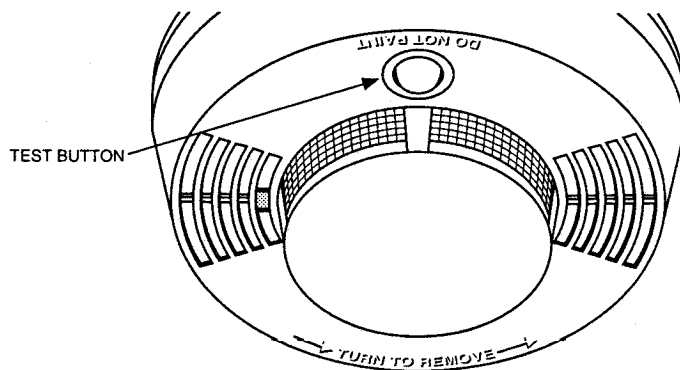

Figure B.4. Test Button Location
3. Trip the alarm by pressing and holding the test button on the smoke detector. (See Figure B.4.)